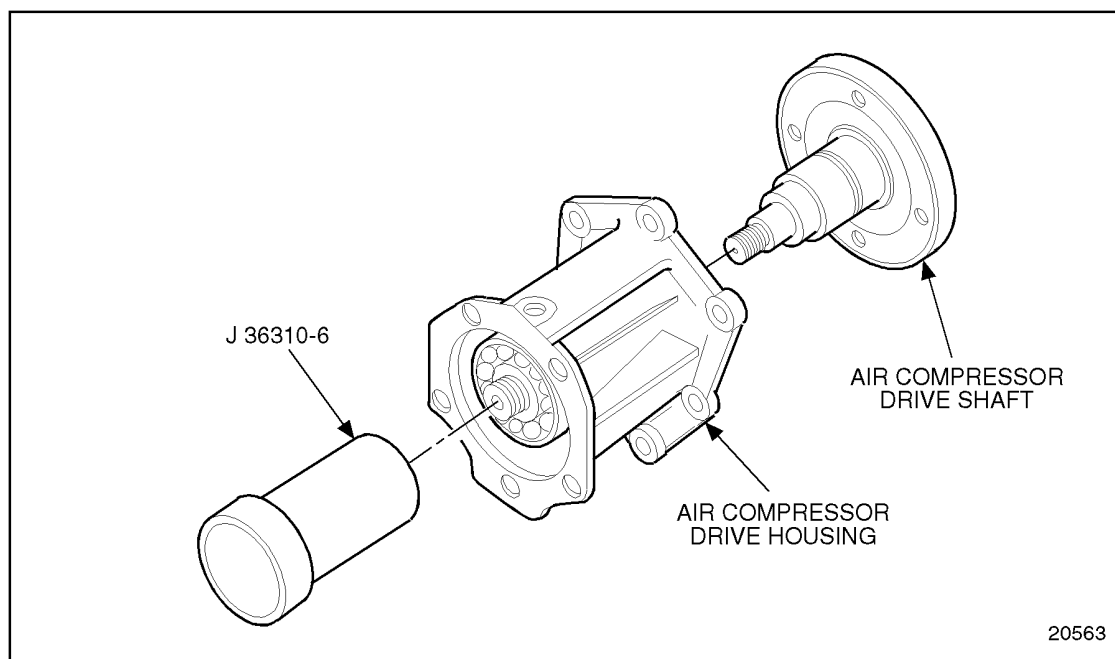

Figure 10-22 Air Compressor Drive Gear Installation
12. Install the air compressor drive gear to the shaft. See Figure 10-22.